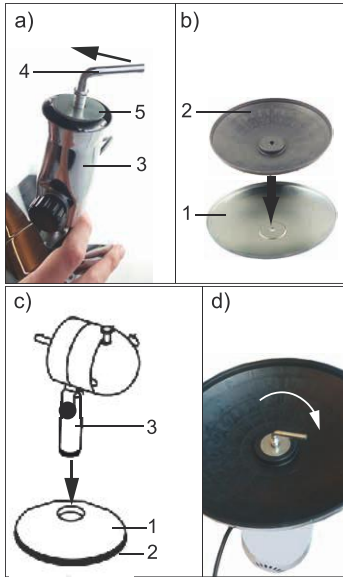

Fig. 11: Mounting Base
1. Loosen the L-fixing screw (4) from the stand.
2. Unscrew them counterclockwise. Fig. 11 a).
3. Remove the washer (5) from the stand (3).
4. Place the insert in the base as shown in Fig. 11 b).
5. Place the stand on the base. Fig. 11 c).
9. Tighten the L-screw clockwise. Fig. 11 d).